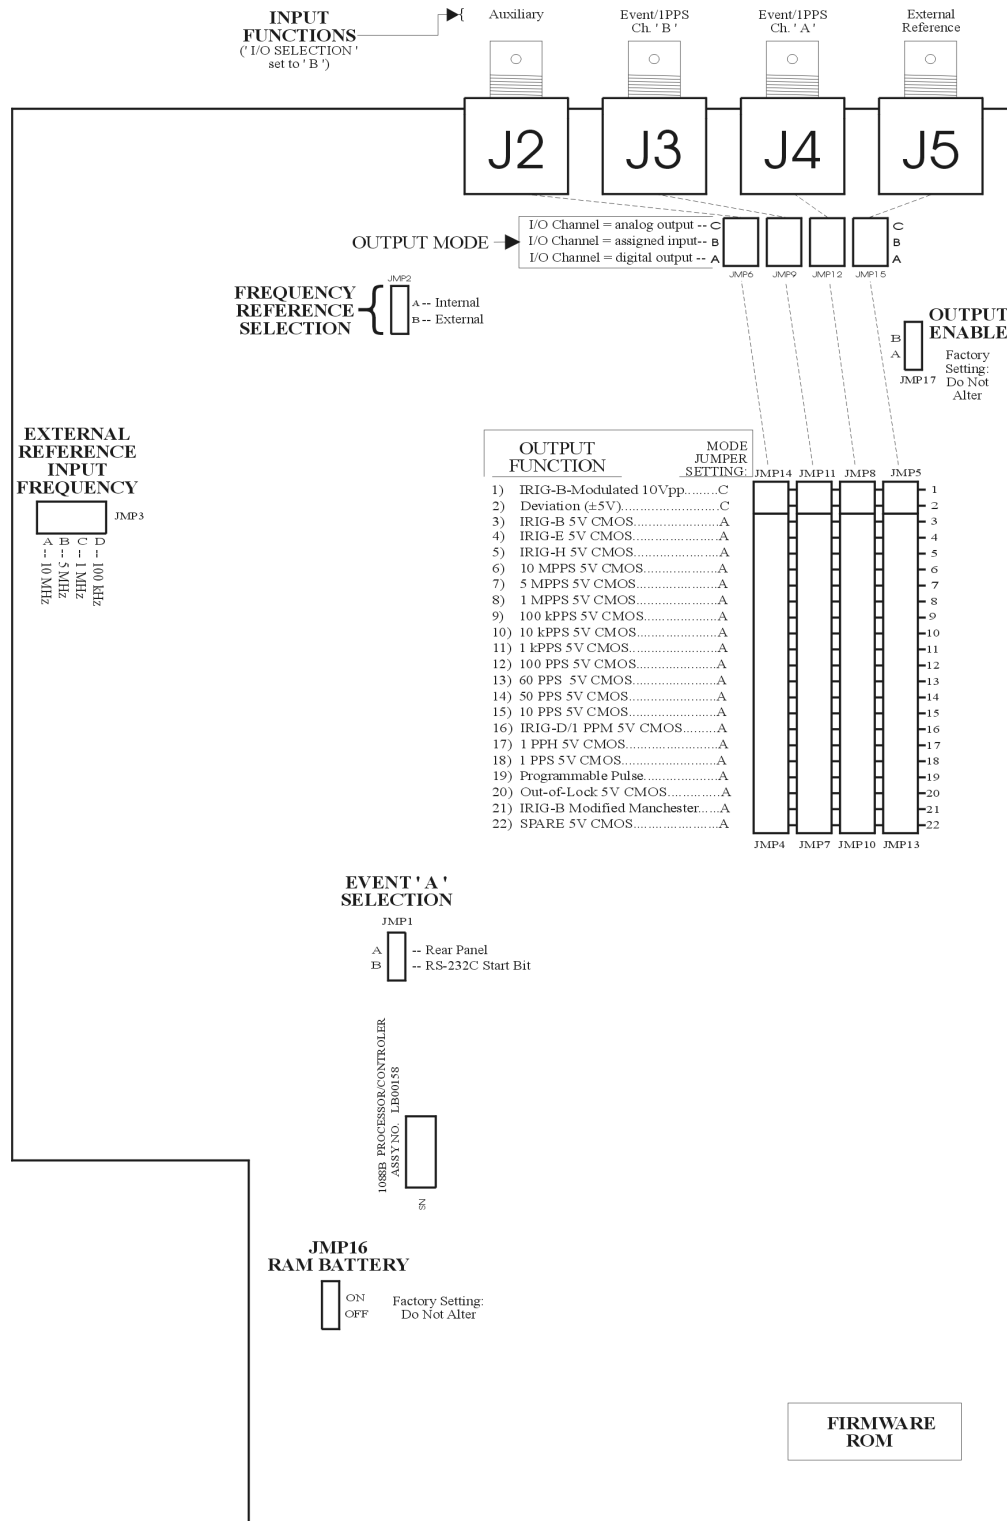

Figure 5.1: Model 1088B Main Board
When changing any of the jumpers you will want to refer to the main board layout diagram in Figure 5.1 to locate jumper positions. Tables 5.1, 5.2 and 5.3 will also help to identify meanings to the various settings.
4. Figure 5.1 illustrates the main board and locates all the jumpers. Also, a label located on the inside of the top cover provides a quick reference for the I/O functions and their respective jumper settings.
Jumpers JMP4, JMP7, JMP10, and JMP13 determine the output signals, which can be made available at I/O connectors J2, J3, J4, and J5, respectively. Figure 5.1 illustrates the relationship between these jumpers and the I/O connectors (the position of some jumpers is slightly different in the Model 1088A). The first step in setting an I/O channel for a specific output signal is to move the associated jumper to the location corresponding to the desired signal. Table 5.2 lists the jumper settings required for various signals. JMP5, JMP8, JMP11 and JMP14 (located at the top of the columns of Output Function jumpers) refer to the two analog signals available from setting jumper positions 1 and 2. They will not be referred to in the setup, but listed for your information.
The next step in configuring the I/O connectors is to determine whether the assigned signal is an analog output, a digital output, or an input (configuring the connectors as inputs is described later in this chapter) . Select the output mode by setting jumpers JMP6, JMP9, JMP12, and JMP15 to the appropriate positions. These jumpers correspond to connectors J2, J3, J4, and J5, respectively (see Figure 5.1). If the I/O channel is to be used as a digital output, the corresponding jumper should be set to position “A”. If the I/O channel is to be used as an analog output, the jumper should be set to position “C”. Table 5.2 lists jumper positions for individual output signals.